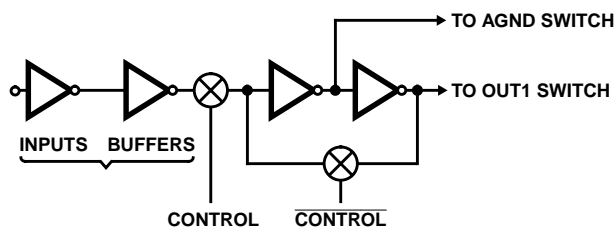
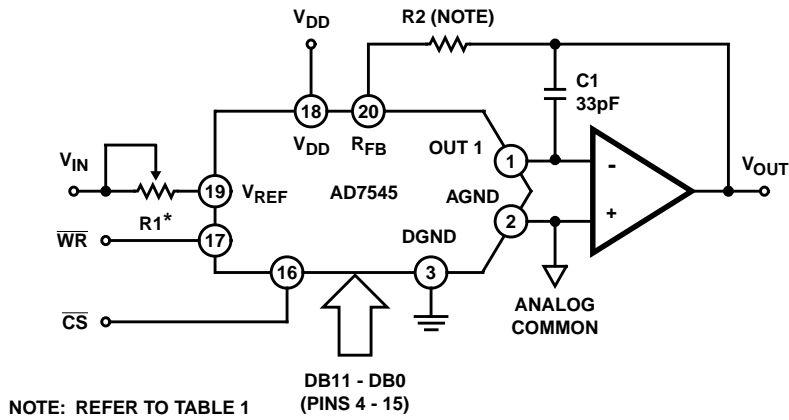

FIGURE 4. DIGITAL INPUT STRUCTURE
FIGURE 5. UNIPOLAR BINARY OPERATION
Figure 4 shows the digital structure for one bit. The digital signals CONTROL and  $\overline{CONTROL}$  are generated from  $\overline{CS}$  and  $\overline{WR}$ .
Figures 5 and 6 show simple unipolar and bipolar circuits using the AD7545. Resistor R1 is used to trim for full scale. Capacitor C1 provides phase compensation and helps prevent overshoot and ringing when using high speed op amps. Note that the circuits of Figures 5 and 6 have constant input impedance at the  $V_{REF}$  terminal.
The circuit of Figure 4 can either be used as a fixed reference D/A converter so that it provides an analog output voltage in the range 0V to  $-V_{IN}$  (note the inversion introduced by the op amp) or  $V_{IN}$  can be an AC signal in which case the circuit behaves as an attenuator (2-Quadrant Multiplier).  $V_{IN}$  can be any voltage in the range  $-20V \leq V_{IN} \leq +20V$  (provided the op amp can handle such voltages) since  $V_{REF}$  is permitted to exceed  $V_{DD}$ . Table 2 shows the code relationship for the circuit of Figure 4.
Figure 5 and Table 3 illustrate the recommended circuit and code relationship for bipolar operation. The D/A function itself uses offset binary code and inverter  $U_1$  on the MSB line converts 2's complement input code to offset binary code. If appropriate, inversion of the MSB may be done in software using an exclusive -OR instruction and the inverter omitted. R3, R4 and R5 must be selected to match within 0.01% and they should be the same type of resistor (preferably wire-wound or metal foil), so that their temperature coefficients match. Mismatch of R3 value to R4 causes both offset and full scale error. Mismatch of R5 to R4 and R3 causes full scale error.
The choice of the operational amplifiers in Figure 4 and Figure 5 depends on the application and the trade off between required precision and speed. Below is a list of operational amplifiers which are good candidates for many applications. The main selection criteria for these operational amplifiers is to have low  $V_{OS}$ , low  $V_{OS}$  drift, low bias current and low settling time.
**TABLE 2. UNIPOLAR BINARY CODE TABLE FOR CIRCUIT OF FIGURE 4**
**TABLE 3. 2'S COMPLEMENT CODE TABLE FOR CIRCUIT OF FIGURE 5**